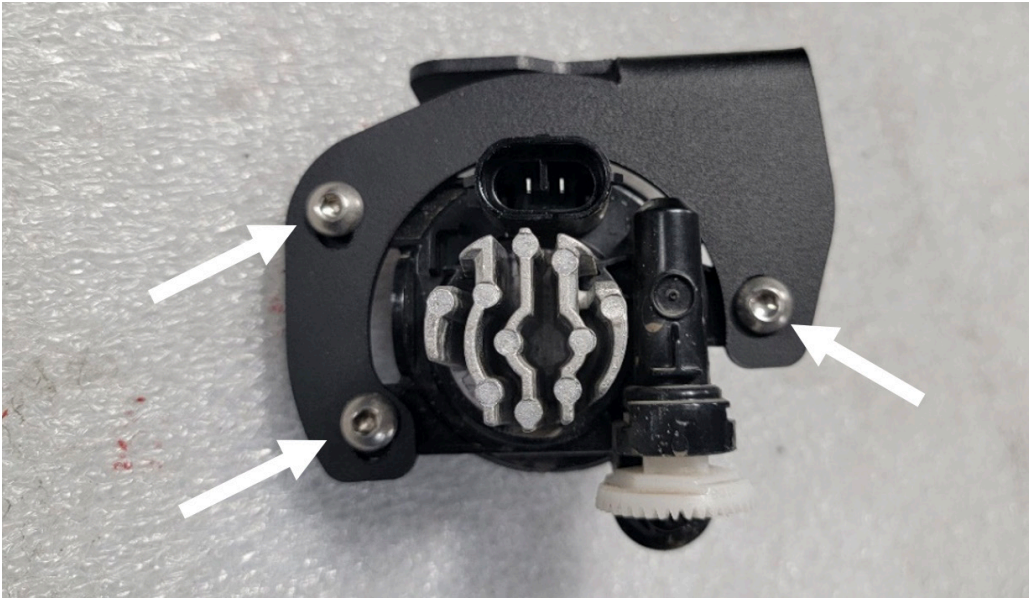

Figure 29
27. Use the provided 6x M6 Button Head Cap Screws and flange nuts to attach the OE fog lights to the provided light brackets. Figure 29.